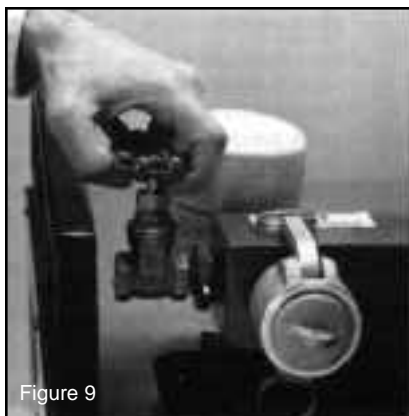

Figure 9
- a) Close the dump valve by turning the red knob clockwise until no air can escape (Figure 9).